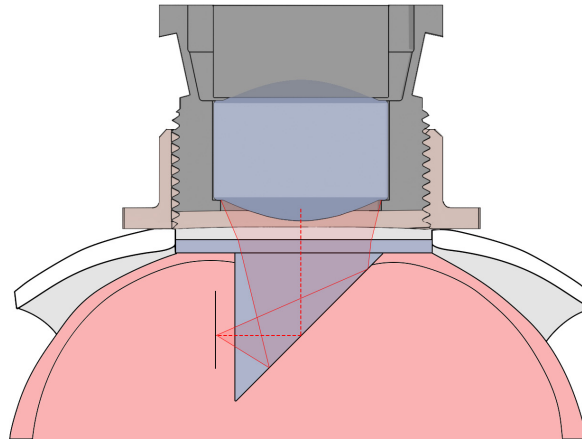

Figure 2.6: Side-prism Method
- The **Side-prism Method** (Fig. 2.6) can be used in conjunction with a **Cranial Window**. A microprism is inserted into the surface areas of the brain, which allows the viewing of regions perpendicular to the normal focal plane.